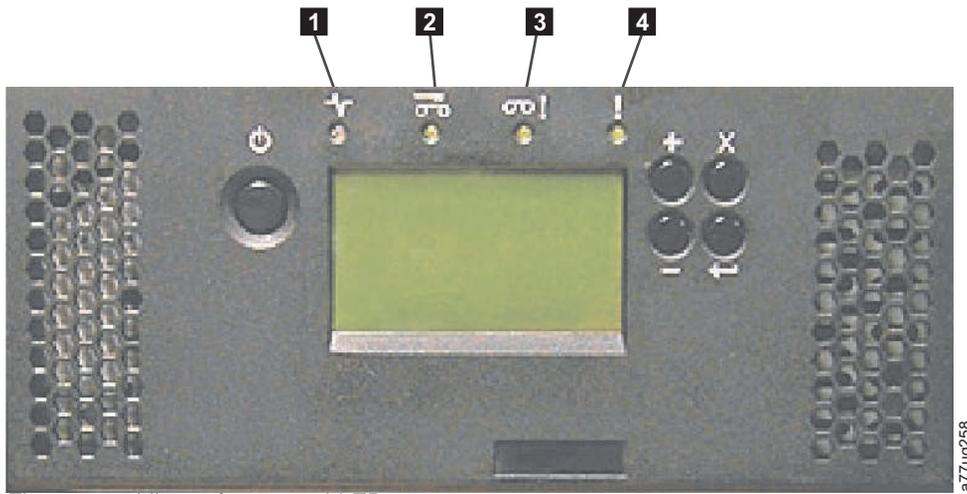

Figure 155. Library front panel LEDs
- 1) After power up, the Ready/Activity LED (**1** in Figure 155 on page 213) turns ON.
- 1) The Error LED (**4** in Figure 155 on page 213) turns ON.
- 1) The replacement library enclosure will power up with the Ready/Activity LED (**1** in Figure 155 on page 213) ON.
- 1) The Error LED (**4** in Figure 155 on page 213) will turn ON. This indicates that the Library Controller Card from the defective library is not functioning properly.
- 1) The replacement library enclosure will complete with the Ready/Activity LED (**1** in Figure 155 on page 213) ON.
- 1) The Error LED (**4** in Figure 155 on page 213) will turn ON.